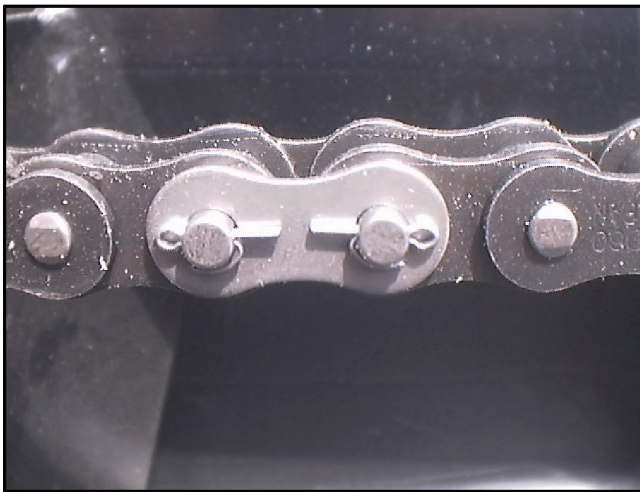

Figure 7-5. Chain connection link components.
2. Install the connecting link (from the outside in) and cotter pins, orienting and bending the cotter pins as shown in Figure 7-5.